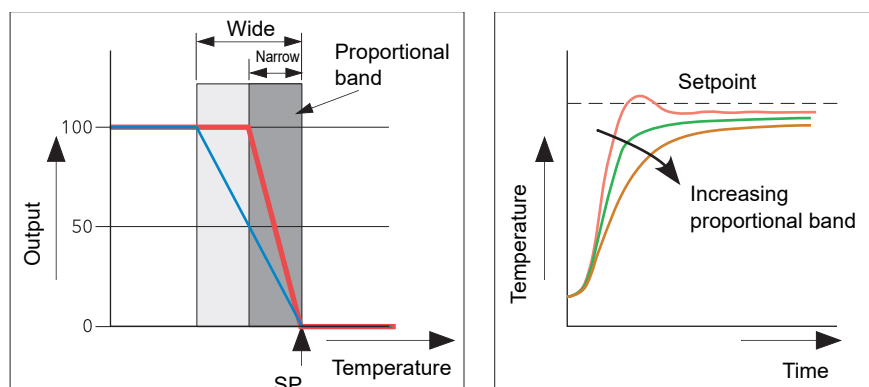

Figure 204 Proportional band action (reverse acting)
The proportional band (PB) delivers an output which is proportional to the size of the error signal. It is the range over which the output power is continuously adjustable in a linear fashion from 0% to 100% (for a heat only controller). Below the proportional band the output is full on (100%), above the proportional band the output is full off (0%) as shown in Figure 204.
Figure 204 also shows the effect of narrowing proportional band to the point of oscillation. A wide proportional band results in straight line control but with an appreciable initial error between setpoint and actual temperature. As the band is narrowed the temperature gets closer to setpoint until eventually, it becomes unstable.